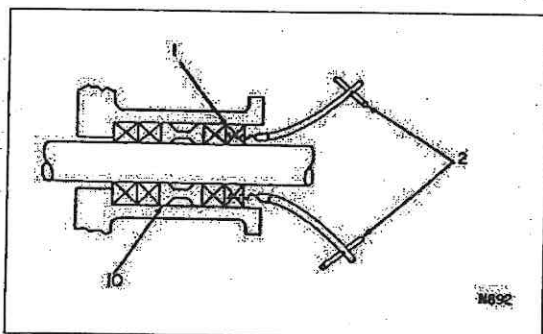

Fig. 15: Removing stuffing box packing
- Push centrifugal ring (3) against bearing bracket.
- Screw the tips of the packing puller into the packing. See Fig. 15, pg. 48.